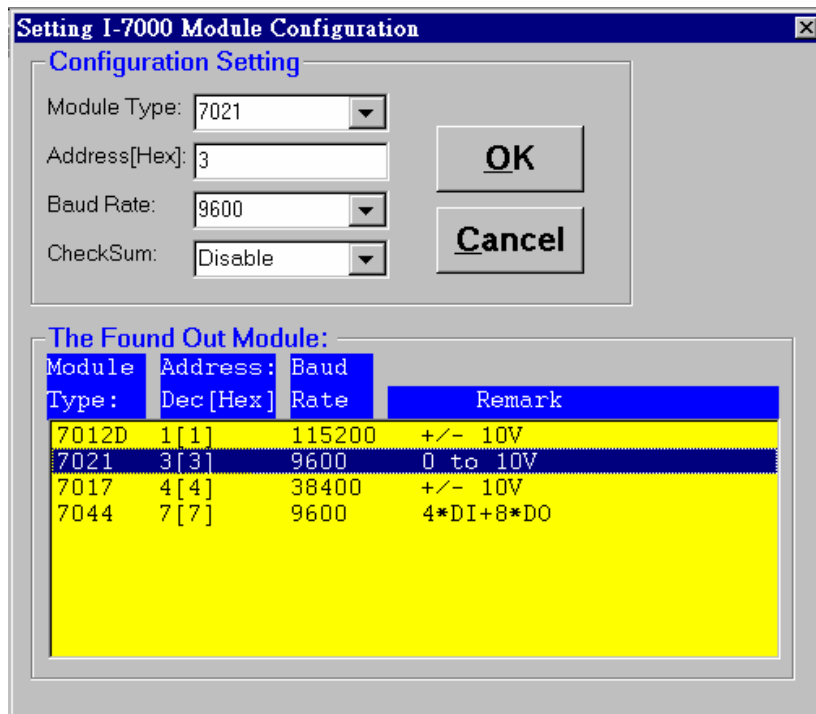

Fig 2-21.
After above six steps, the setting window shown as Fig 2-21.
Step 7: when Fig 2-21 display, click **OK** button to accept the setting.